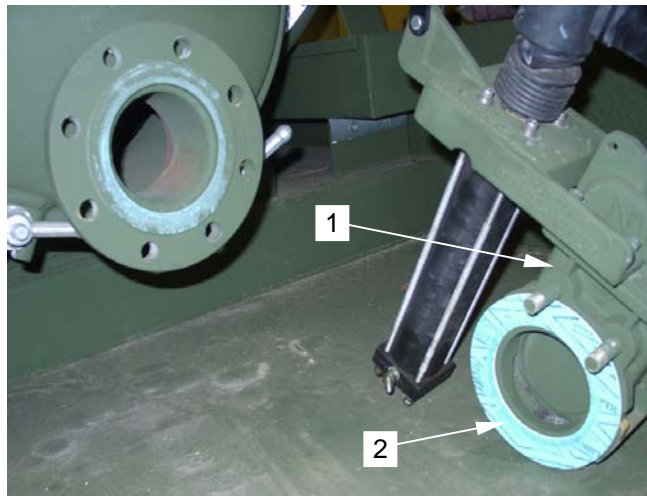

Figure 7. Installing Rear Manway Cover
11. Install the 4-inch drain valve (**figure 7, item 1**) as described in WP 0024 00. Ensure new 4-inch gaskets (**figure 7, item 2**) are installed.